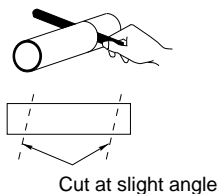

Fig. 9
- (5) Measure the thickness of the wall from the inside edge to the outside edge and cut PVC pipe at a slight angle 1/4" shorter than the thickness of the wall. (Fig. 9)